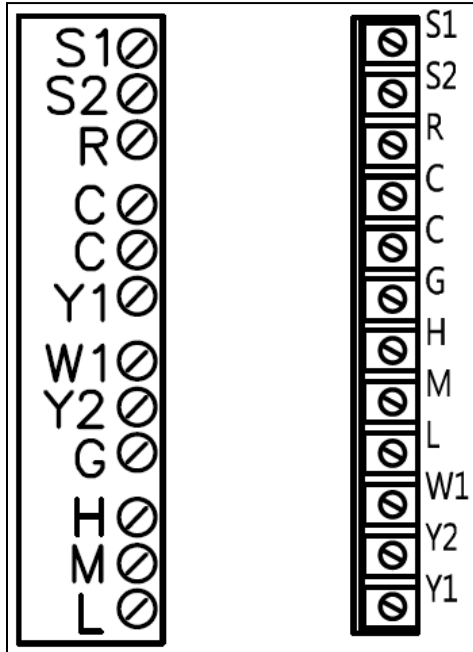

Figure 21 – FCRB screw terminals (left) vs FRBii screw terminals (right)
13. Connect screw terminal wires to FRBii (See Figure 21)
- a. Take any wires removed from the FCRB in Step 7 and install them into the screw terminals of the FRBii. The FCRB and FRBii screw terminals have identical names and wires removed from the FCRB should go to the corresponding terminal on the FRBii (NOTE: order of screw terminals is different; see Figure 21).